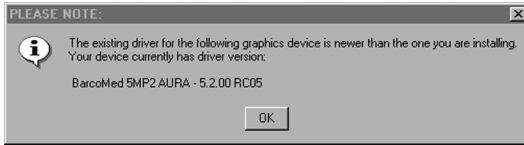

Figure 8
9. If you selected a device with an existing driver, the wizard will compare the existing driver’s version against the version of the driver you are installing. If the existing driver’s version is newer than the one you are installing, the wizard will warn you that the current driver is newer than the one you are installing (see figure 8 on the next page).